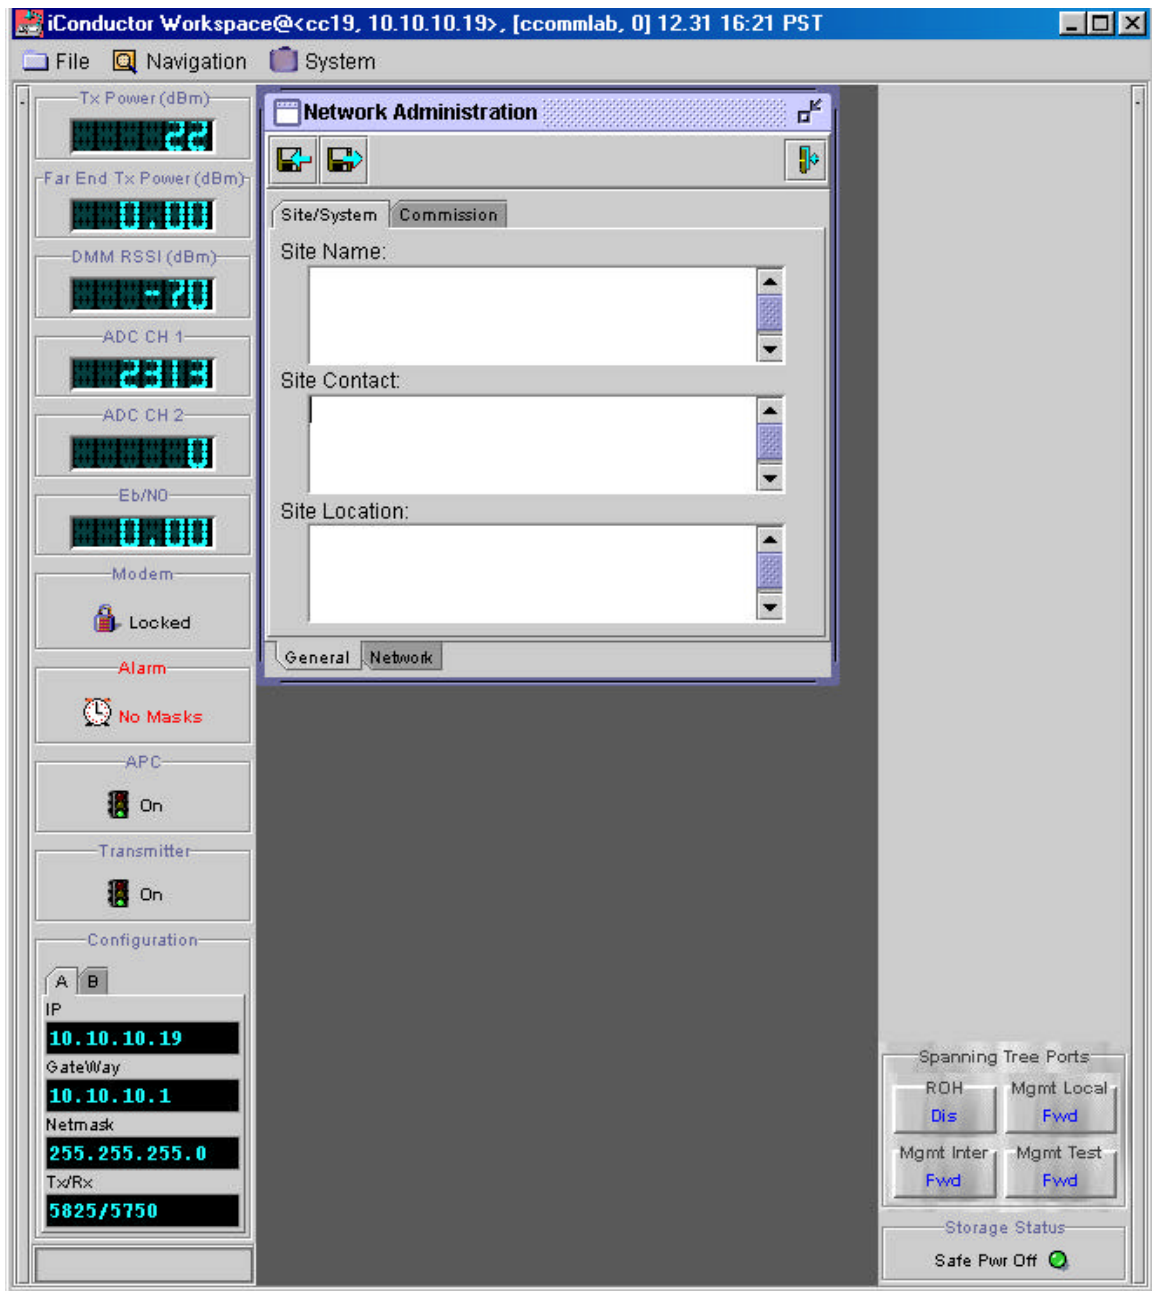

Figure 3-22. Network Administration Window (Network Tab) Insert
3. Click the **Save** icon to save the data and then select the Network tab (see Figure 3-22).